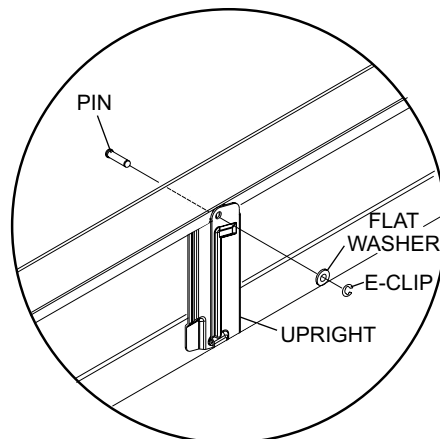

Figure 3
3. At the trap door location, remove the E-clips from the pins securing the two or three uprights to the rail. Refer to *Figure 3*.